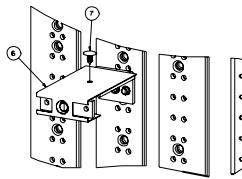

Figure 5
6. Reference fig. 5 - Attach the barrier (item 6) to B-phase strap. Insert the christmas tree rivet (item 7) through the 0.25" diameter hole in the barrier and into the 0.155" diameter hole in the B-phase strap. Push for a tight fit.